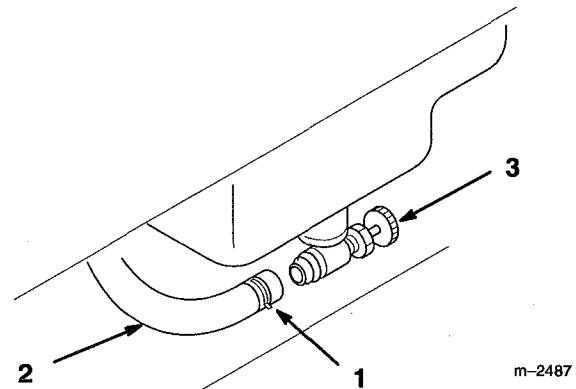

Figure 32
4. Pull the fuel line off fuel shut-off valve (Fig. 32). Open fuel shut-off valve and allow gasoline to drain into a gas can or drain pan.
5. Install the fuel line onto the fuel shut-off valve. Slide the hose clamp close to the fuel shut-off valve to secure the fuel line (Fig. 32).
3. Loosen the hose clamp and slide it up the fuel line away from the fuel shut-off valve (Fig. 32).